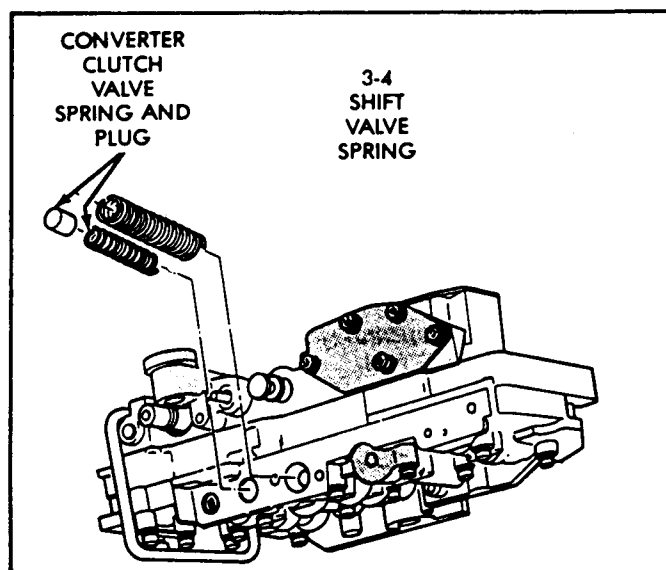

Figure 103
26. Position plug on end of the converter clutch valve spring (See Figure 103).